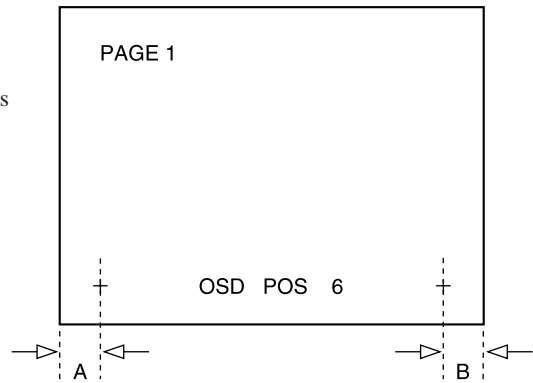

Fig.1-4
- Adjust + mark positions on both left and right in the equal distance towards the screen edge. A = B (Fig. 1-4)